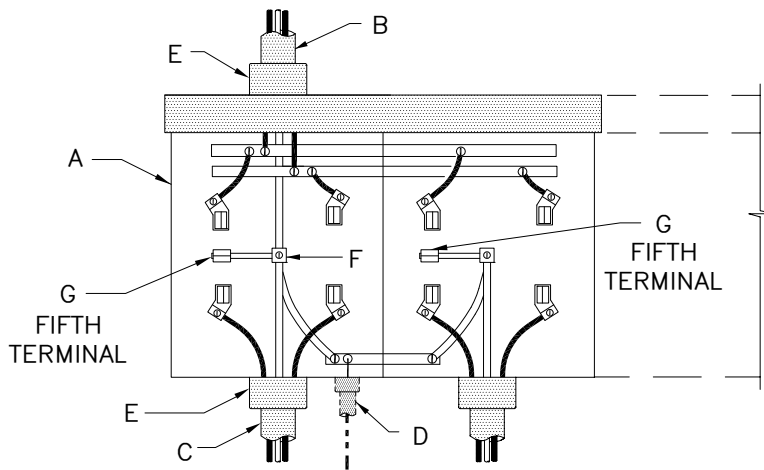

FIGURE 5A
- MULTIPLE POSITION 1-PHASE, 3-WIRE 120/208V SERVICE METER (SEE FIGURES 5A AND 5B)